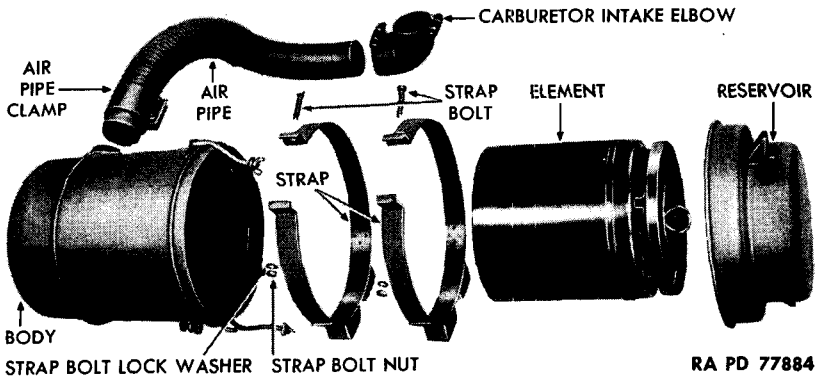
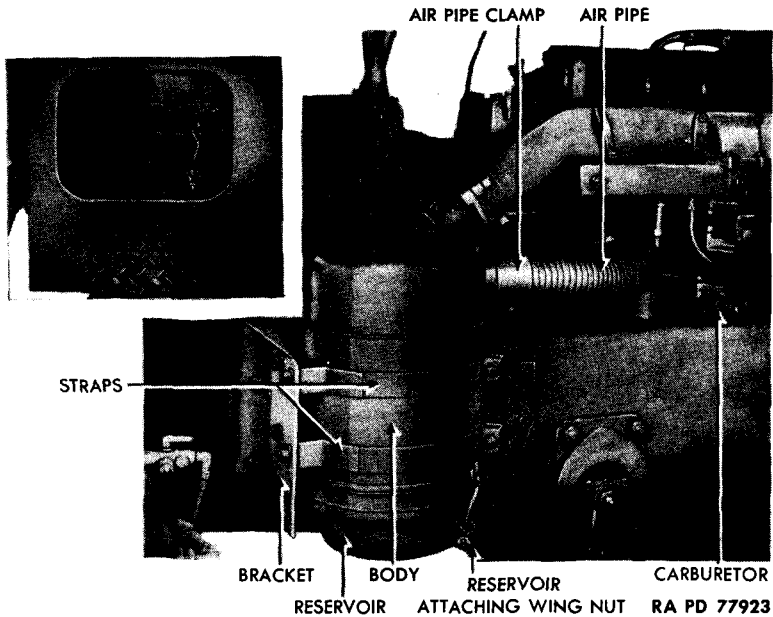

Figure 35 — Carburetor Air Cleaner Disassembled
Figure 36 – Carburetor Air Cleaner Installed
(1) **DESCRIPTION** (figs. 35 and 36). The air cleaner is attached to a bracket mounted outside the right-hand frame side rail at rear of the engine, and is accessible through an opening in the cab skirt. It is connected to the carburetor by an air pipe. Foreign particles are fil-
b. Maintenance (figs. 35 and 36). Remove and refill reservoir at intervals indicated in paragraph 17.
(1) DISCONNECT AIR PIPE FROM CARBURETOR (fig. 36). Loosen carburetor intake elbow clamp screw (fig. 35). Pull elbow from carburetor.
(2) REMOVE CLEANER FROM BRACKET (fig. 36). Remove the four nuts, toothed lock washers, and bolts which secure air cleaner straps to bracket. Remove cleaner.
(1) INSTALL AIR CLEANER (fig. 36). Position cleaner straps to bracket. Secure with the four bolts, toothed lock washers, and nuts.
(2) CONNECT AIR PIPE TO CARBURETOR (fig. 36). Fit pipe to carburetor, and tighten elbow clamp screw.